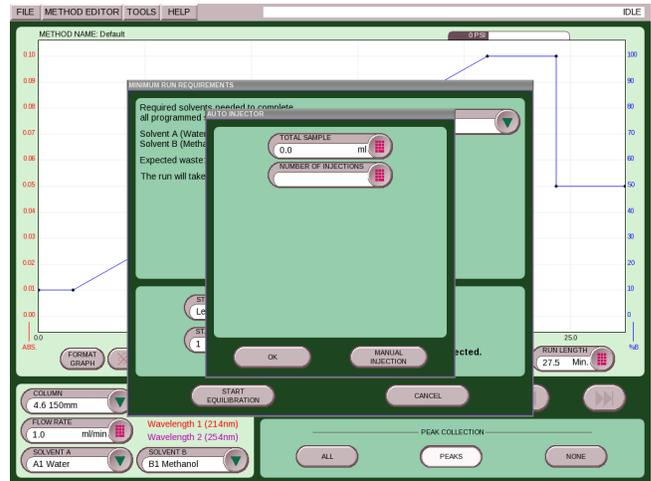

Figure 6: Multiple Injection Run screen
- To verify that the system recognizes the presence of the AutoInjector, press the play button and the MULTIPLE INJECTION RUN screen will appear (Figure 6).